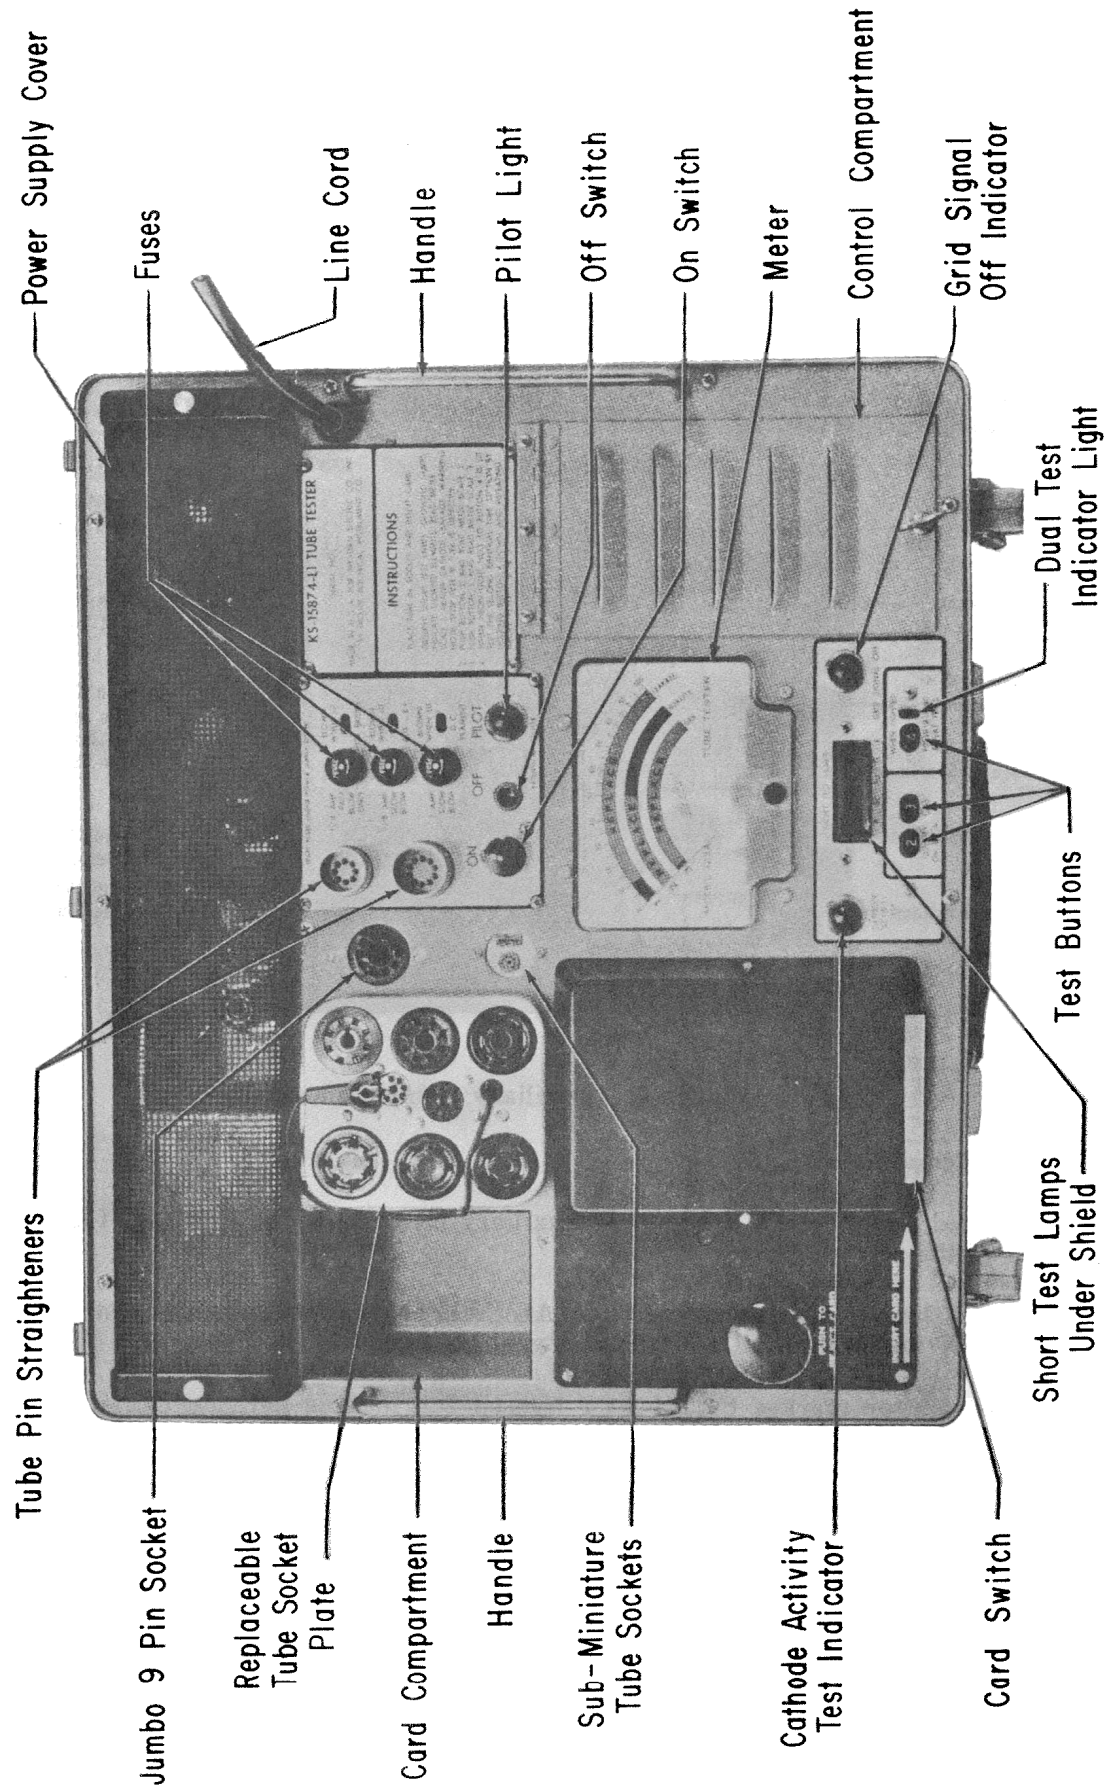

Figure 3. Identification of Controls and Components
2.05 The front panel is shown in Figure 3. The largest feature is the card switch which has a receptacle for receiving the program cards. When a pre-punched card is fully inserted into the switch it actuates a micro-switch which in turn actuates a solenoid to move the card switch contacts to complete the circuit. When the card switch actuates, the large knob at the left of it pops up. This PUSH TO REJECT CARD knob must be pressed to open the switch contacts and release the card. The card switch actuates only when a card is in the proper position and operates on the principle that absence of a hole in the card makes a contact.
- a. Insert calibration card 1, METER, into the switch. Plug the calibration cell into the octal test socket, see Figure 3. (The calibration cell is normally stored in the cover of the tube tester.) The left short lamp will glow.